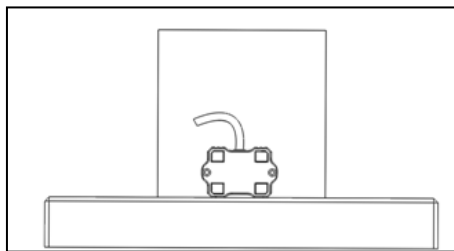

Figure 2. Position of Calibration Step 2
16. Locate the sensor module as following Figure 2. The sensor is ready for user to perform calibration step 2.